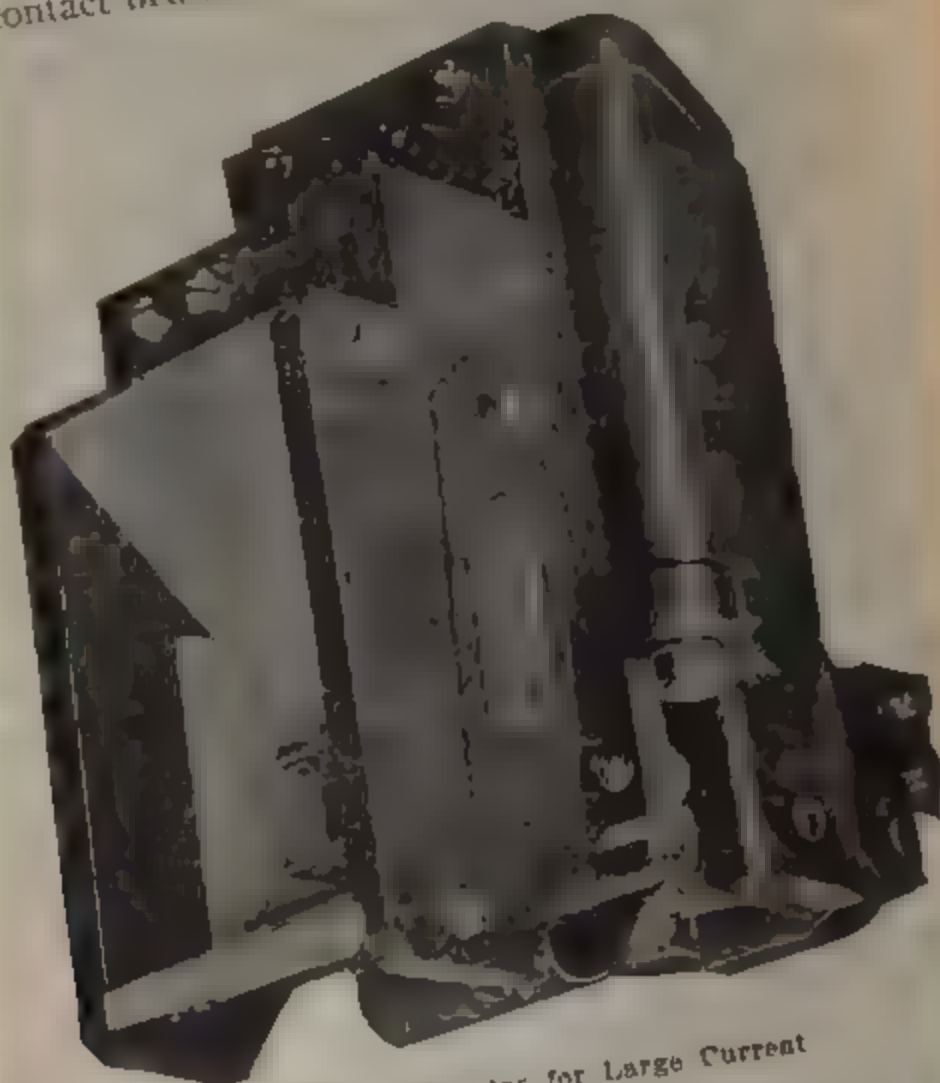

Fig 504 Contactor for Large Current
48. THE CONTACTOR (Fig. 504) is an electromagnet switch (see general description under paragraph 7, Suburban Motor Cars), with two contact arms and sets of contacts in multiple operated by one plunger. There are 43 of these contactors which are located in the end compartments of the cab, one group on each side of each end compartment. The contactors are suspended by insulating bolts from channel iron supports. The contactors are numbered progressively around the cab, No. 1 being the nearest the No. 1 reverser. Each contactor has a plate with its number, which is attached in front above the arc chute.